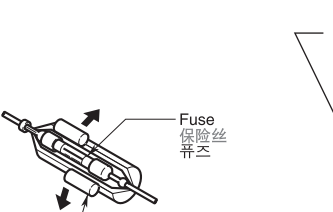

Figure 11 / 圖 11 / 그림 11
- If the fuse should blow, check that the wiring is correct. If it is, replace the fuse with a new one with the same amperage rating as the original one. (Figure 11)
- 请特别注意布线位置, 使导线远离发动机, 排气管等. 高温可能损坏导线. 如果接线正确, 则请用与原来保险丝额定安培数相同的新保险丝更换. (图11)